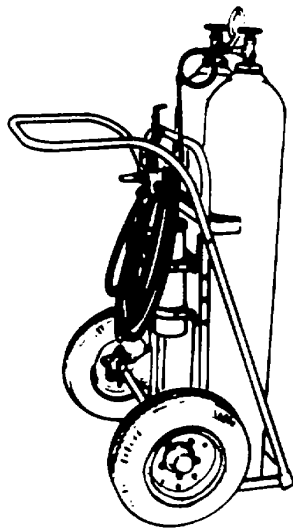

Figure 9-17. Nitrogen Servicing Unit
j. *Nitrogen Servicing Unit.* The two-wheeled, hand truck mounted nitrogen servicing unit, shown in figure 9-17, is used to service aircraft nitrogen systems. The cylinders are restrained on the hand truck by a chain. The controls are mounted on the cylinders. The assembly consists of an air chuck, an adapter and valve, a hose, an air and nitrogen purifier cylinder, and a high pressure oxygen regulator.